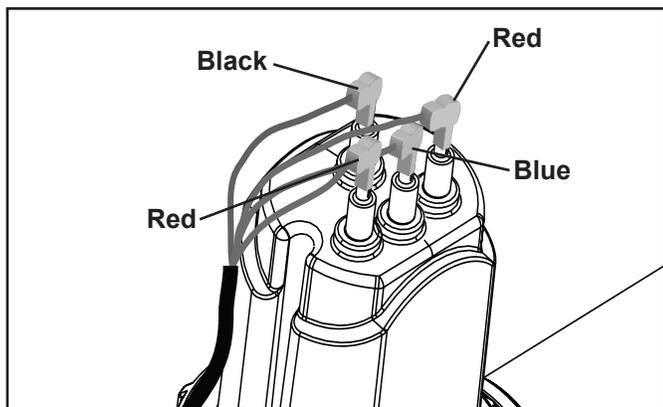

Figure 7. Connecting Cell Leads
9. Securely connect the cell leads to the like colored terminals (see Figure 7).